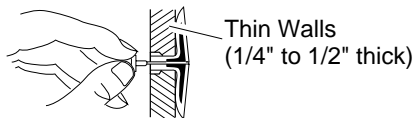

Figure 7 - Popping Open Anchor Wings For Thin Walls
4. For thin walls (1/2" or less), insert red key into wall anchor. Push red key to "pop" open anchor wings (see Figure 7).